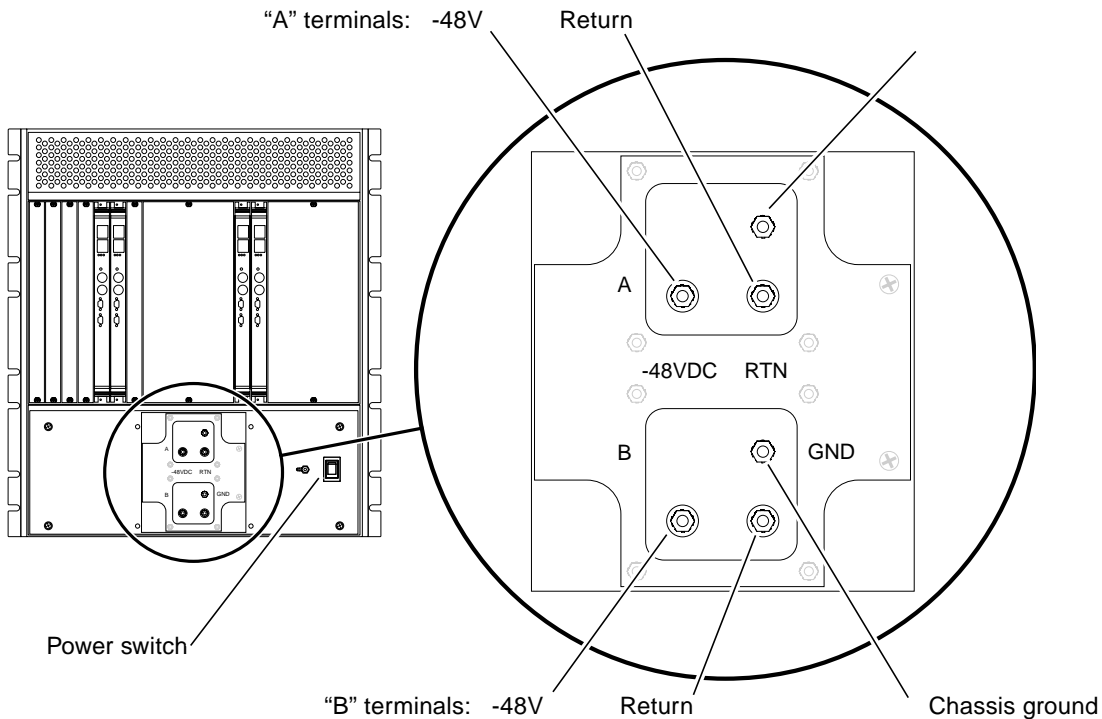

FIGURE 2-1 DC Power Input Panel
1. At the rear of the Netra CT 820 server, verify that you have made the proper connections to the DC power input panel (FIGURE 2-1).
2. Locate the power switch at the rear of the server and press it to the On (I) position (FIGURE 2-1).
2. Locate the power switch at the rear of the Netra CT 820 server and press it to the Off (O) position (FIGURE 2-1).
3. If you want to completely power off the Netra CT 820 server, remove the service panel cover from the DC terminal block and disconnect the DC supply terminals from the terminal block (FIGURE 2-1).